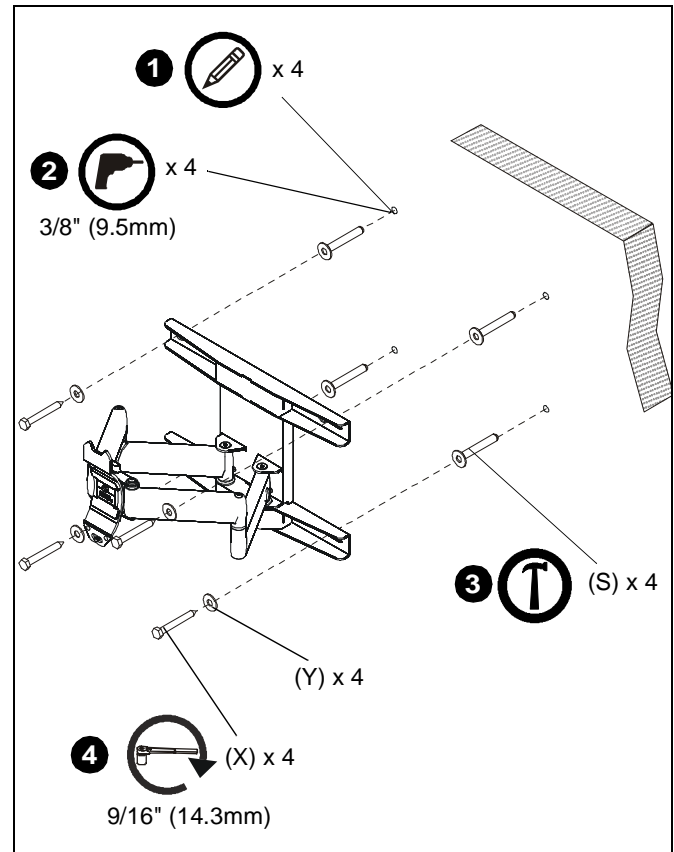

Figure 2
1. Level wall plate and mark locations of pilot holes. (See Figure 2)
2. Drill 3/8" (9.5mm) diameter holes into concrete. (See Figure 2)
3. Install anchors (S) into holes. (See Figure 2)
4. Install 3/8 x 2 1/2" lag screws (X) through flat washers (Y), wall plate (A), into anchors (S). (See Figure 2)